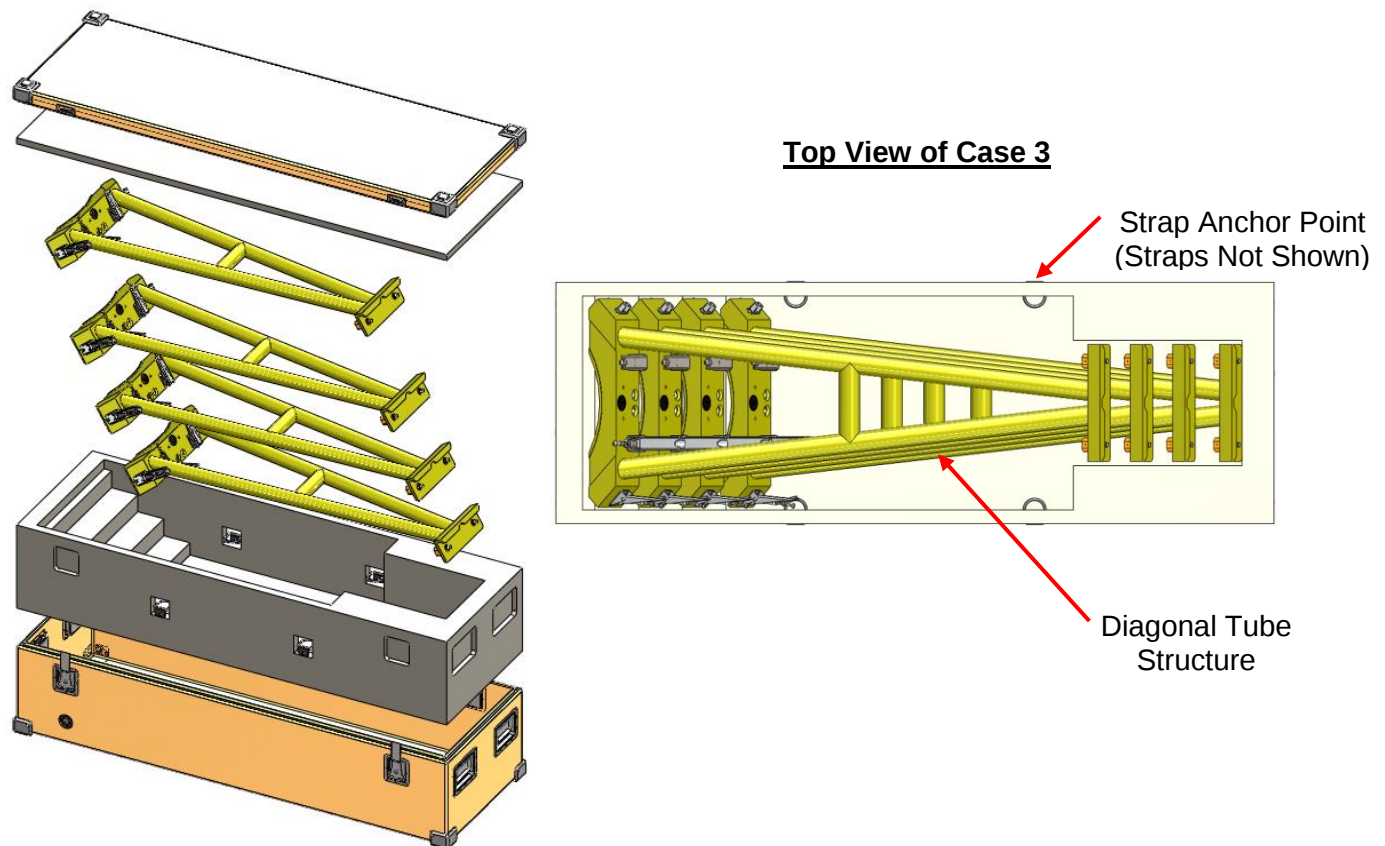

Figure 54. Case No. 3 Pack-Up
48. Remove each diagonal tube structure (one at a time) and place in Case 3 as shown in Figure 54.